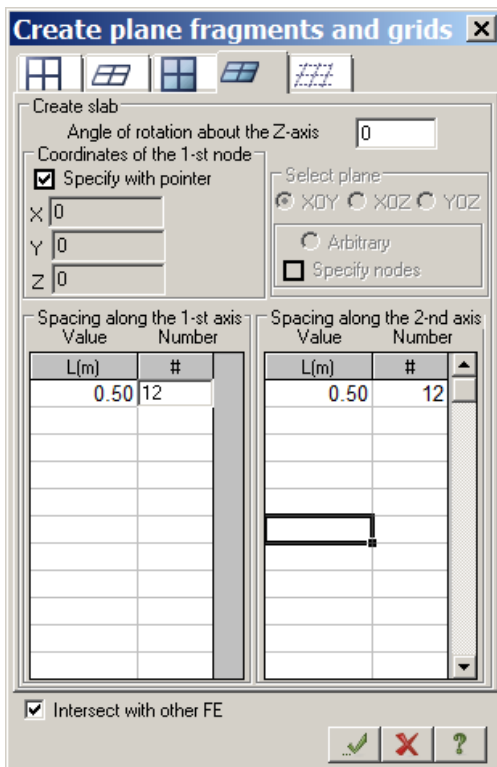

Figure 17.8. Create plane fragments and grids dialog box
- other parameters remain by default (see Fig.17.8).